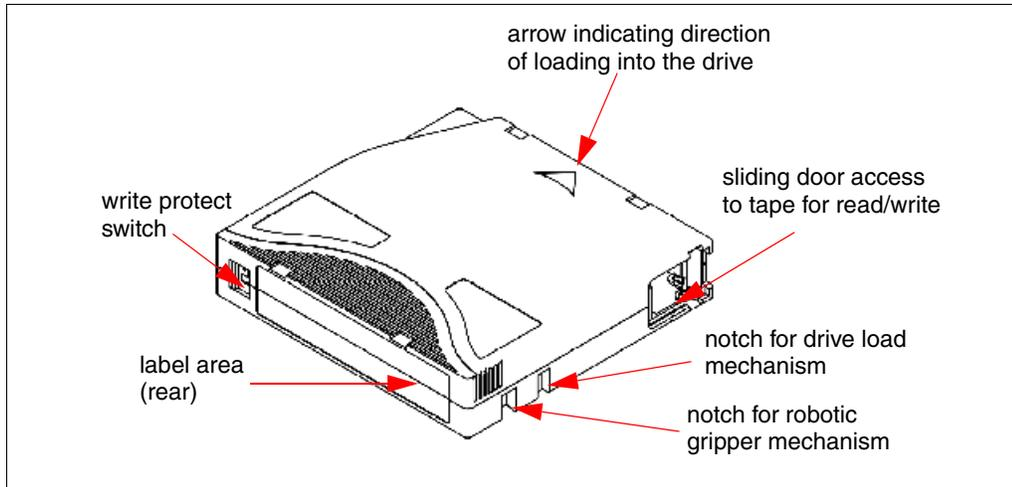
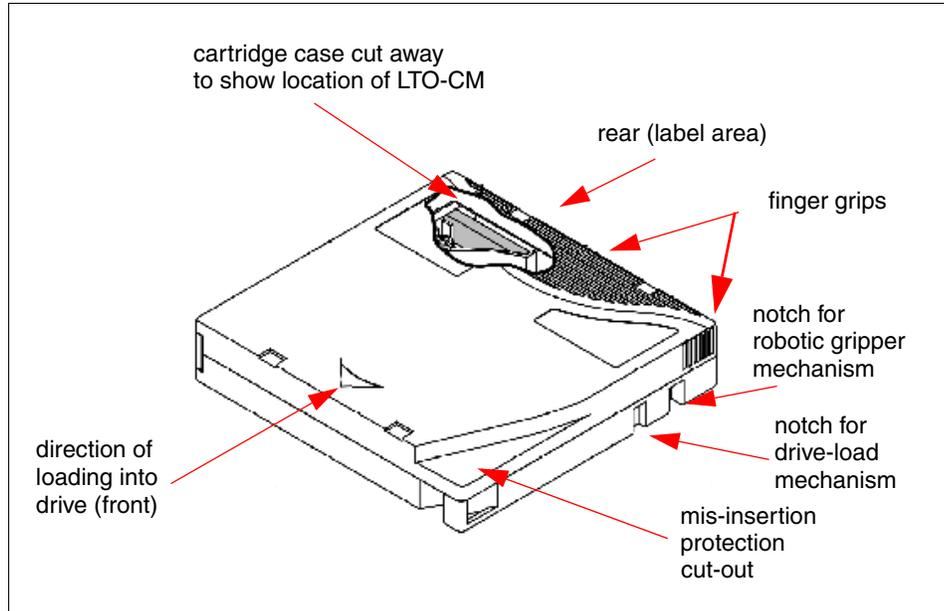
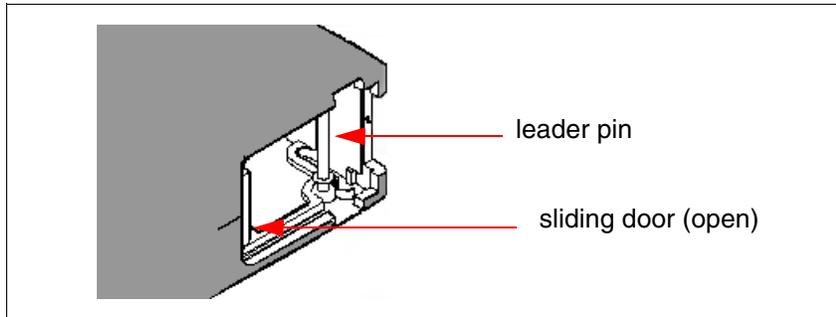

Figure 2-12 Ultrium cartridge view from top and rear
Figure 2-13 Ultrium cartridge view from top and front
Figure 2-14 Leader pin attached to the tape medium
Two views of the tape cartridge are shown in Figure 2-12 and Figure 2-13 on page 41.
Figure 2-13 shows several of the components of the cartridge.
- ▶ Sliding door: Cartridge door (shown in Figure 2-12 on page 40) that protects the tape from contamination whenever the cartridge is out of the drive. Behind the door, the tape is threaded onto a leader pin (shown in detail in Figure 2-14 on page 42), which is used to pull the tape from the cartridge for use. A locking mechanism prevents the media from unwinding when the cartridge is not located in the drive.
Information about the cartridge and the tape is written to the LTO-CM, which is a serial Electronically Erasable Programmable Read-Only Memory (EEPROM) with both read-only and rewritable areas. It is housed inside the cartridge casing at the left rear (label side) corner as illustrated in Figure 2-13 on page 41, which shows the interior of the cartridge casing.
Tape cartridges are often supplied with the labels already attached, or you can attach a label yourself. Operators must handle the cartridges and barcode labels in accordance with the instructions in the operator guides supplied with the products. You must ensure that labels are removed cleanly, reapplied carefully, in good condition, and not obscured or damaged. The Ultrium cartridge features a recessed area for the label (see Figure 2-12 on page 40). The label must be applied only in the recessed label area; if it extends outside of the area it can cause loading problems in the drive.
The write protect switch is located at the front of the cartridge to the left of the barcode label (see Figure 2-12 on page 40). The position of the write-protect switch on the tape cartridge determines whether you can write to the tape; you cannot write to the tape when the switch is pushed to the right. When the write protect switch is set to inhibit writing, a visual lock mark, such as a padlock, is visible.